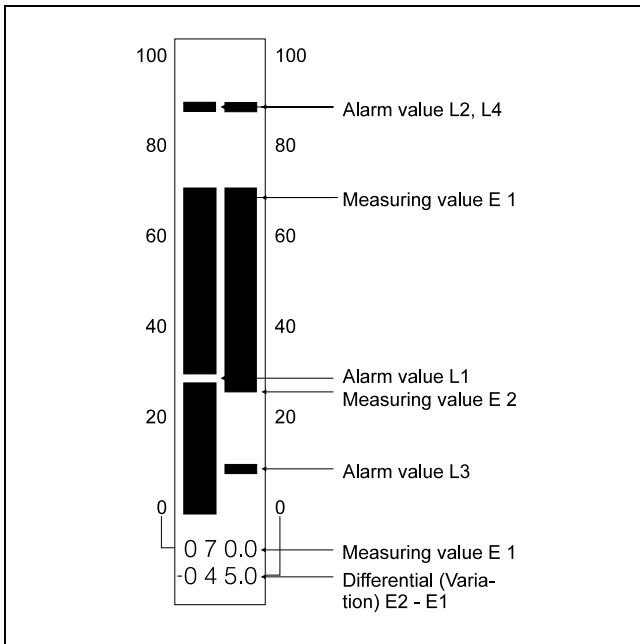

Fig. 17 Example: Differential (deviation) display E2 – E1 “floating” on channel 2
- if E2 is less than E1, the band dips down and the deviation is negative (see fig. 17)
- if E2 is less than the fixed value, the bar dips down and the deviation is negative (see fig. 17)